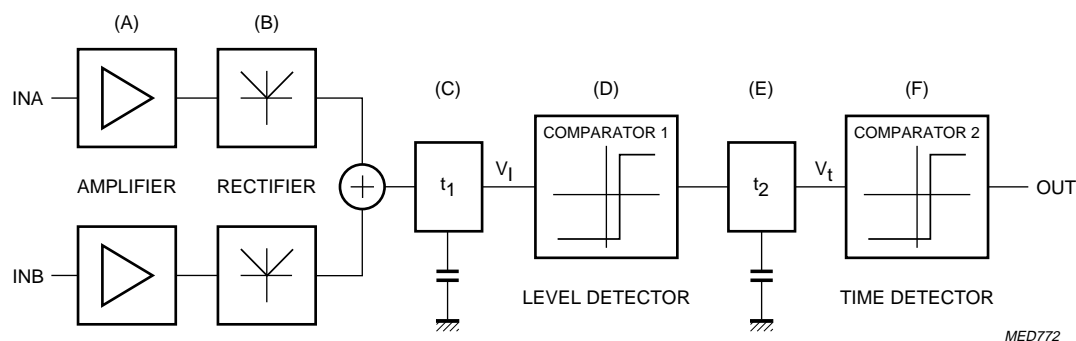

Fig.4 Integrated 'music search' function.
A system for 'music search' mainly consists of a level and a time detection (see Fig.4). For adapting and decoupling the input signal will be amplified (A), then rectified (B) and smoothed with a time constant (C). So the voltage at (C) corresponds to the signal level and will be compared to the predefined pause level at the first comparator (D), the level detector. If the signal level becomes smaller than the pause level, the level detector (D) changes its output signal. Due to the output level of the level detector the